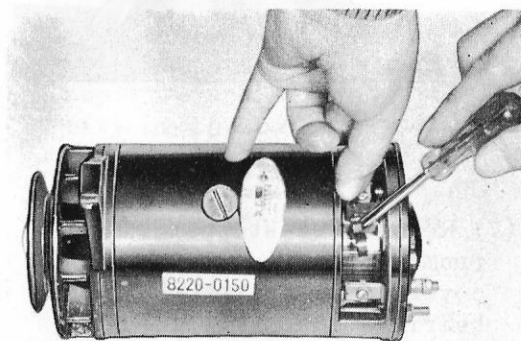

Fig. 10-43
- (1) Remove the brush cover and then take out the carbon brushes. (See Fig. 10-43)